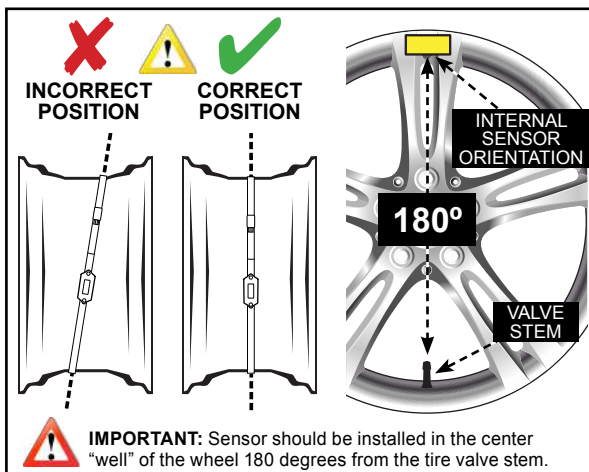

Figure 5: Internal sensor installed orientation
**!** **IMPORTANT:** Sensor should be installed 180 degrees from the tire valve stem. See Figure 5.
**!** **CAUTION:** MAKE SURE THE SENSOR BAND IS CORRECTLY INSTALLED ON THE WHEEL HUB AND DOES NOT MOVE Laterally OR ROTATE. See Figure 5.